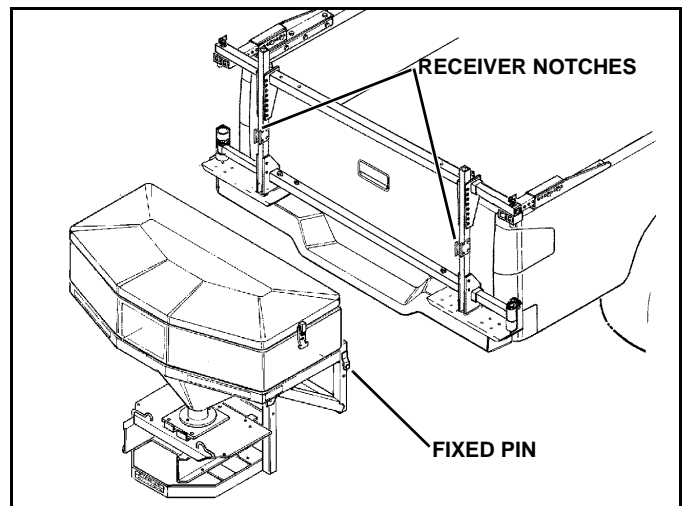

Figure 1-2
6. Lift Spreader Hopper Assembly, position Hopper Frame against Mounting Frame, and lower Hopper Frame Fixed Mounting Pins into Receiver Notches in Mounting Brackets on each side of Mounting Frame. (See Figure 1-2)